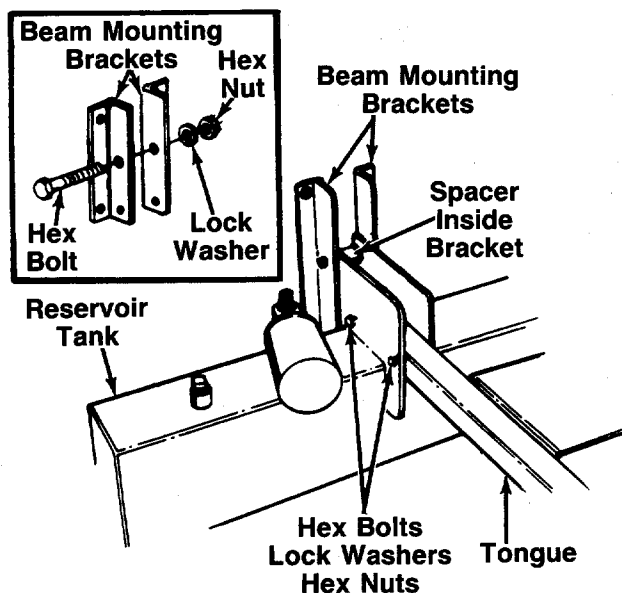

FIGURE 4.
- Remove the two hex bolts, lock washers and hex nuts on the front of the reservoir tank. Two 9/16" wrenches are required. Place the tongue in position, and secure with hardware just removed. See figure 4.
- Using two 3/4" or adjustable wrenches, remove the hex nut, lock washer and hex bolt from the bracket on the reservoir tank. Make certain the spacer remains inside the bracket on the reservoir tank. See figure 4.
- Place one beam mounting bracket against each side of the bracket on the reservoir tank as shown in figure 4. Secure with hardware just removed.